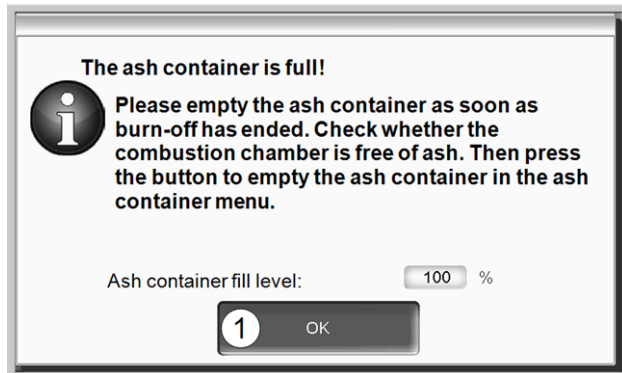

Abb. 2-57
- ▶ Confirm the information message on the display with OK **1** > Abb. 2-57